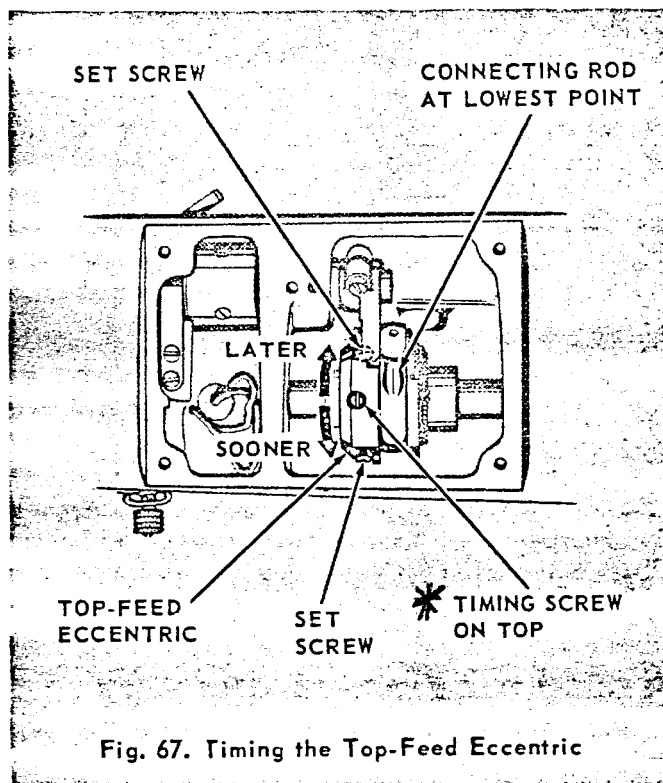

Fig. 67. Timing the Top-Feed Eccentric
**TOP-FEED (See Fig. 67):** To synchronize top-feed with bottom feed motion, remove arm top cover, as shown in Fig. 67, and loosen the TIMING SCREW and the other two screws in the top feed eccentric.